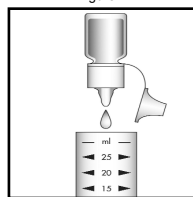

Figure 2
2. Add 10 drops of A-9001 Activator Solution (fig. 2). Cap the sample cup and shake it to mix the contents. Wait **4 minutes**.
3. Add 5 drops of A-9000 Neutralizer Solution (fig. 2). Cap the sample cup and shake it to mix the contents. Wait **1 minute**.